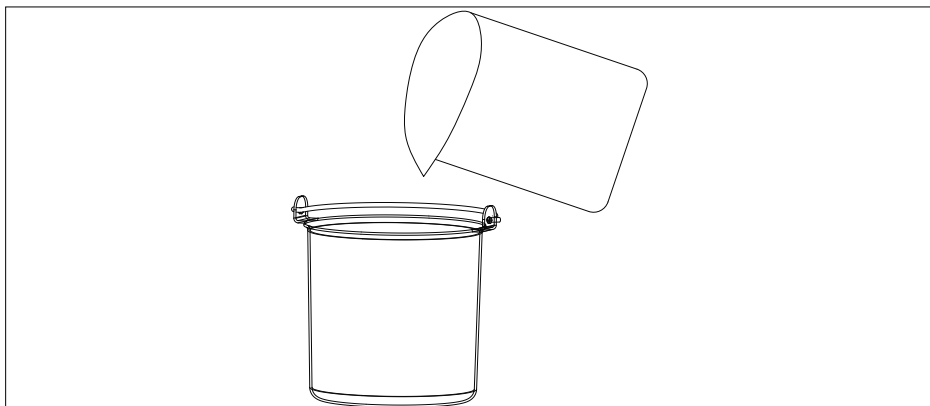

Fig. 3
- ▶ Put the prepared ingredients into the aluminium container. Use the supplied measuring cup for measuring out the ingredients (see Fig. 3).